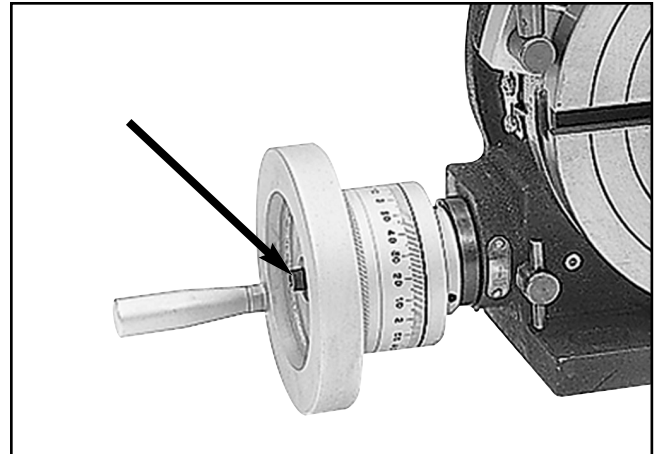

Figure 2. Crank handle cap screw.
1. Remove the crank handle cap screw shown in **Figure 2**.